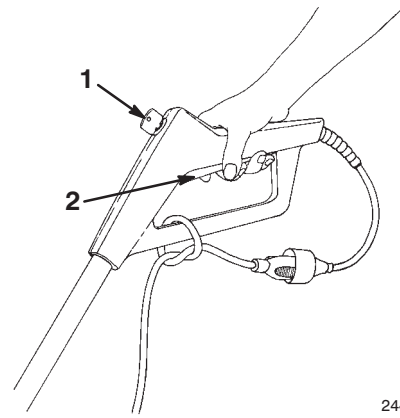

Figure 7
1. Tie the extension cord to the lower handle of the control grip (Fig. 7) before connecting it to the Power Shovel cord. This helps prevent the cords from separating during operation.
2. Plug the extension cord into a wall outlet and insert the key into the hole located on the front side of the control grip (Fig. 7).
To start the Power Shovel, install the key and squeeze the switch bar. To stop, release the switch bar (Fig. 7).